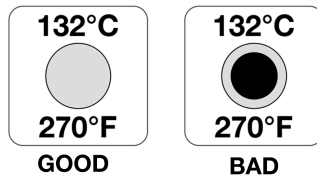

Figure 1
3. Install in coolest location practical away from ignition sources. The decal (figure 1) on the side of the vent will indicate if it has exceeded operating temperature. Call 888.216.6033 if this happens.